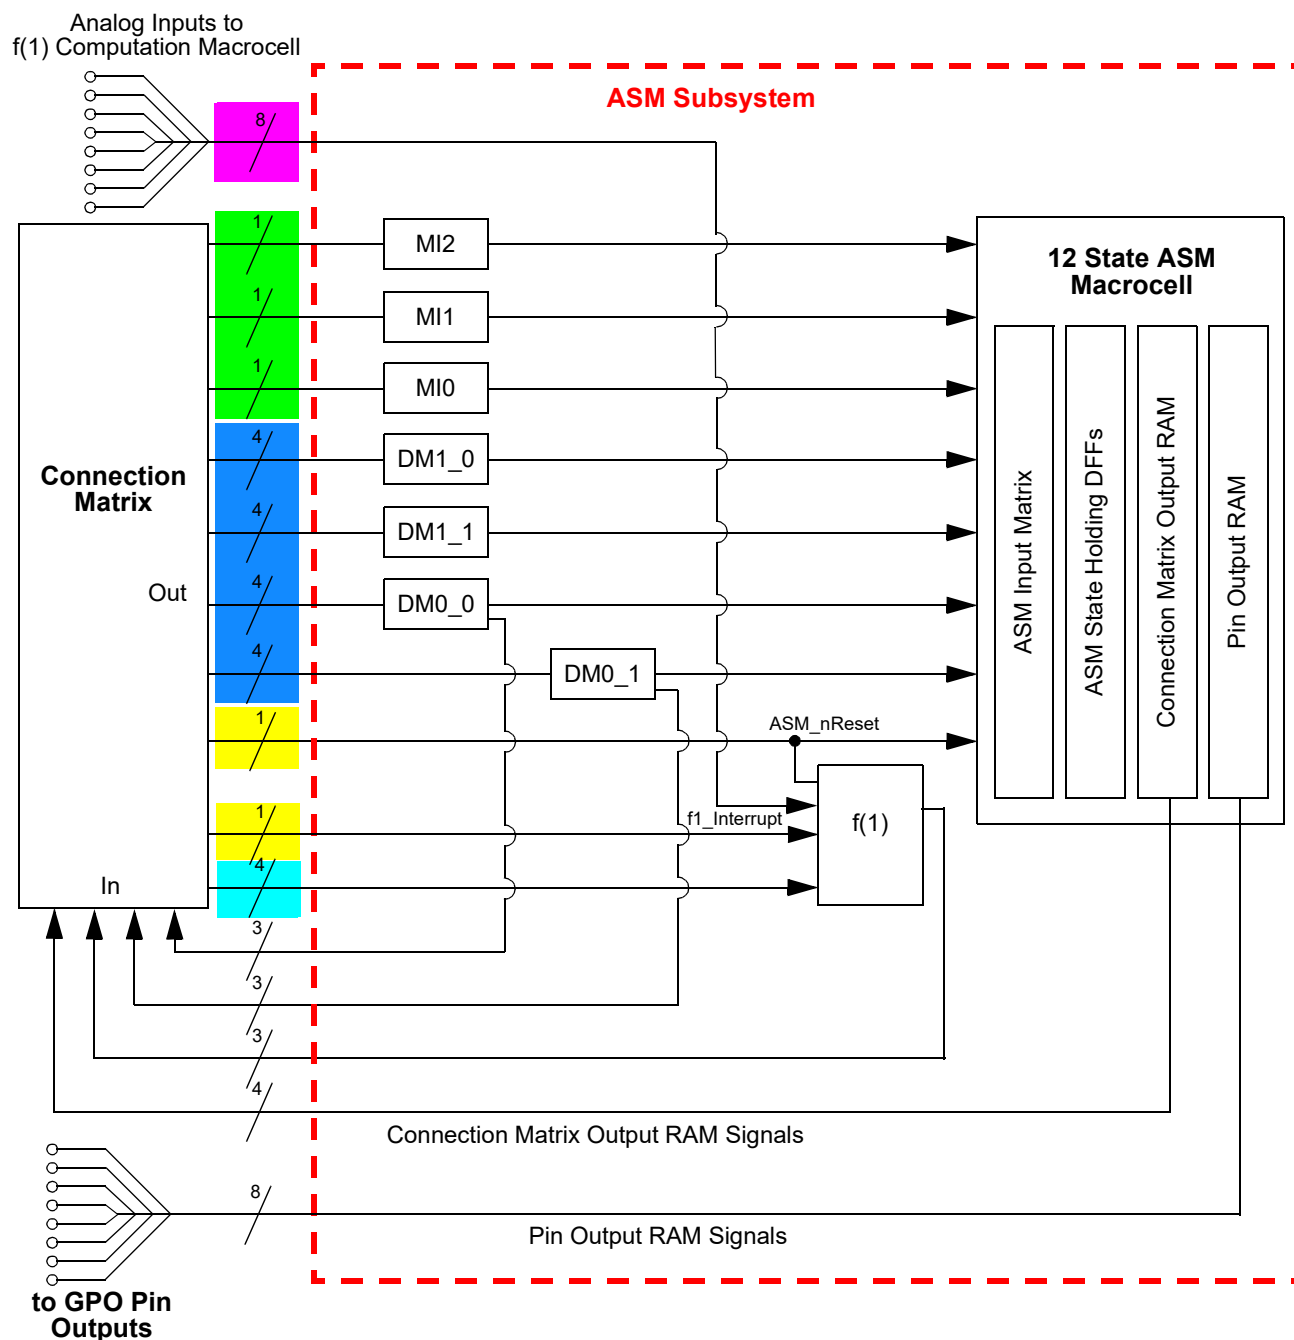
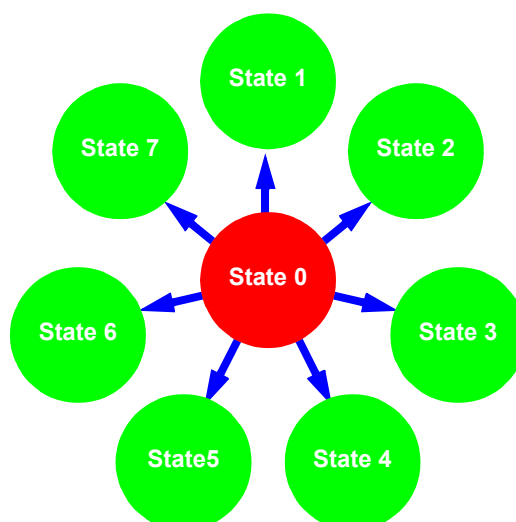
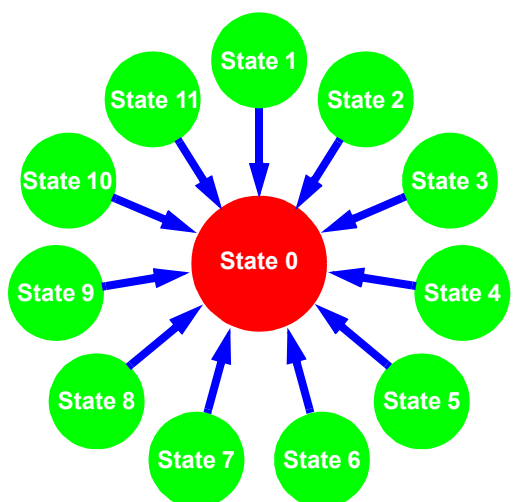

Figure 98: ASM Subsystem Input Signals
Figure 99: Maximum 7 State Transitions out of a Given State
Figure 100: Maximum 11 State Transitions into Given State
The ASM Subsystem has a total of 25 digital input signal lines, as shown in Figure 98, which all come from the Connection Matrix outputs. Of these 25 input signals, 3 are user selectable inputs going directly from the Connection Matrix to the three Matrix Interface (MI) macrocells. There are a total of 16 input signals that go to the DM_x_x macrocell, four per macrocell. There is 1 ASM_nReset input that is for driving a state transition in both the ASM macrocell and the f(1) Computation Macrocell to an Initial/Reset state. There are 4 digital input signals coming from the Connection Matrix to the f(1) Computation Macrocell. There is also 1 dedicated Interrupt input to the f(1) Computation Macrocell that will halt any active operations and transfer control back to the ASM macrocell. Each of the 25 input signals are level sensitive.
There are a total of 16 digital input signals to the ASM Subsystem which are inputs directly to the DM macrocells. These 16 signals are shown in Figure 98, highlighted in blue. While there are 4 input signals coming from the Connection Matrix and going to each DMx_x macrocell, there is only 1 output signal from each of these macrocells, which goes directly to the ASM macrocell. There are also 3 signal lines that come directly from the Connection Matrix and go to the three Matrix Interface (MI) macrocells which can drive state transitions. These signals are shown in Figure 98, highlighted in green. This sets an upper bound on the number of transitions that the user can select going **out of** a particular state to be 7, shown in Figure 99. There is no limitation on the number of unique transitions that can be supported going into a particular state, the user can select to have transitions going from a state to all other states, shown in Figure 100. Each of these input signals to the ASM macrocell is level sensitive, and active high. A high level input will trigger a state transition.
There are a total of 8 analog inputs coming from various pins which can be muxed into the positive input for the f(1) Analog Comparator inside the f(1) Computation Macrocell. These 8 signals are shown in Figure 98, highlighted in pink. The f(1) Analog Comparator can be re-programmed for analog input source and negative input reference settings. The user selections for both positive input signal and negative reference are included as part of the information stored in the f(1) Command Register Table. This allows the user to make different analog measurements that are state dependent in their analog sources and reference settings.
Also there are 4 digital inputs that can be connected with any Connection Matrix output by the f(1) Computational Macrocell commands. These 4 signals are shown in Figure 98, highlighted in light blue.
The ASM macrocell also has a ASM_nReset input. This input to the ASM macrocell is level sensitive and active low. This signal is shown in Figure 98, highlighted in yellow. An active signal on this input will drive an immediate state transition to the user-defined Initial/Reset state. The user can choose which state within the ASM Editor inside GPAK Designer will be the reset state.
There is also 1 dedicated f1_Interrupt input to the f(1) Computation Macrocell that will halt any active operations and transfer control back to the ASM macrocell. This signal is shown in Figure 98 also highlighted in yellow.